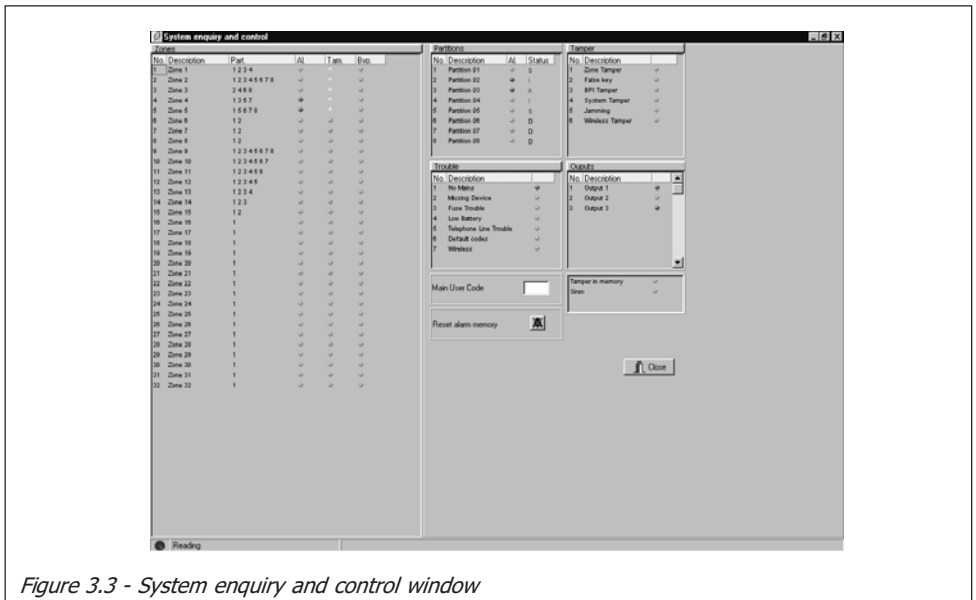

Figure 3.3 - System enquiry and control window
**Check** ⇒ **System enquiry and control** - This command will open a window similar to the one shown in Figure 3.3. which will allow you to: